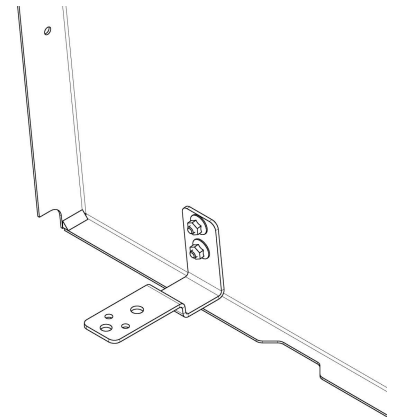

Figure 3
- A. Locate the (2) Lower Barrier Brackets [3BAR572101], the (4) carriage bolts [3X36], and the (4) 1/4-20 whiz nuts [3X612].
- C. Loosely secure the Lower Barrier Brackets in place by inserting the (4) carriage bolts [3X36] through the square holes in the barrier and finger tightening the (4) whiz nuts [3X612] onto the bolts. The nuts should be on the back side of the barrier against the brackets. Figure 3 shows an installed driver side Lower Barrier Bracket.
- D. Locate the (2) Barrier L-Brackets [3BAR572104], the (2) Barrier Support Bars [3BAR572105], (6) 5/16-18 button head screws [3X149], and (6) 5/16-18 whiz nuts [3X619].